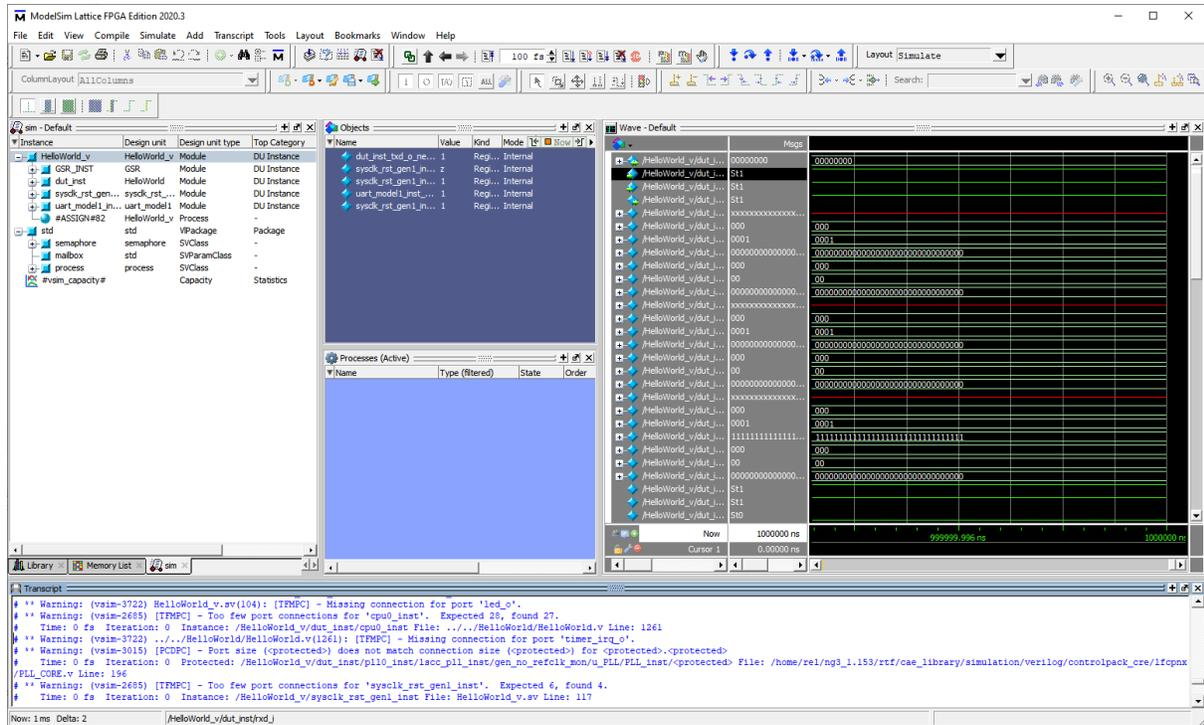

Figure 2.111. ModelSim Simulation GUI
2. The default simulation tool, ModelSim, OEM version, opens (Figure 2.111).